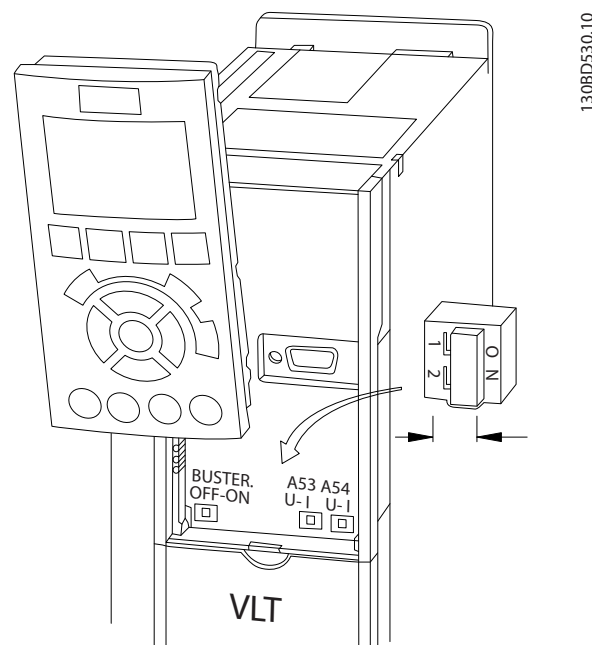

Figure 4.14 Location of Terminals 53 and 54 Switches
1. Remove the local control panel (see Figure 4.14).
- Terminate each segment at both ends, using either the termination switch (bus term on/off, see *Figure 4.14*) on the adjustable frequency drives, or a biased termination resistor network.